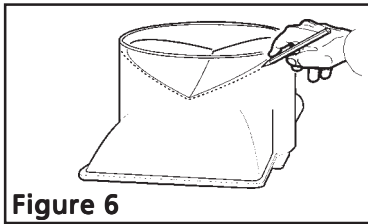

Figure 6
8. Install transition to top of hood (if removed for shipping). Snap damper into transition, foam tape up, with firm pressure at either end. Mark onto exterior of transition the 'V' location of the damper within. See Figure 6.